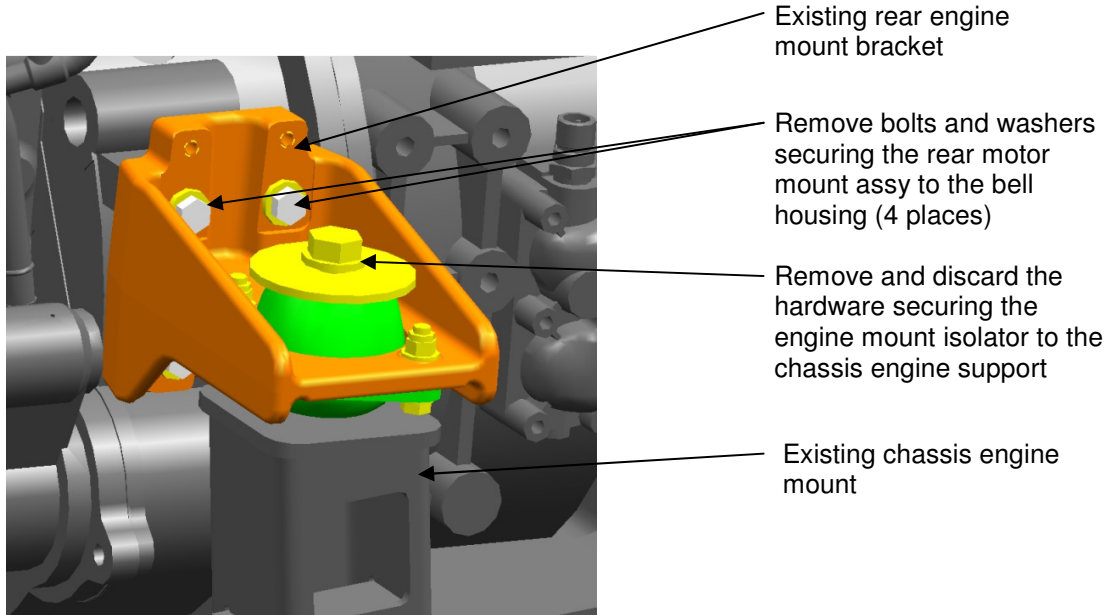

Figure 2: Motor Mount Bracket Assy
- Remove the bolts and washers securing the motor mount bracket to the bell housing (4 places) and the bolt holding the motor mount isolator to the chassis engine mount, discard hardware but retain the motor mount bracket and isolator, See Step 7. See figure 2.